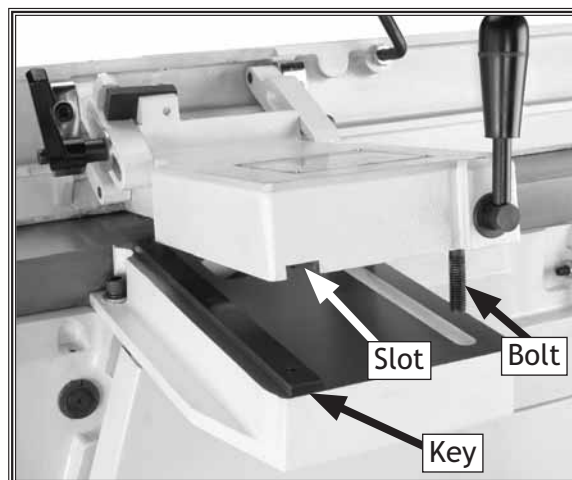

Figure 13. Installing fence assembly.
2. With the help of an assistant, lift the fence assembly over the fence bracket, slip the sliding bushing on the carriage into the slot on the fence bracket, as shown in **Figure 13**, and make sure the key and keyway slot fit snugly.